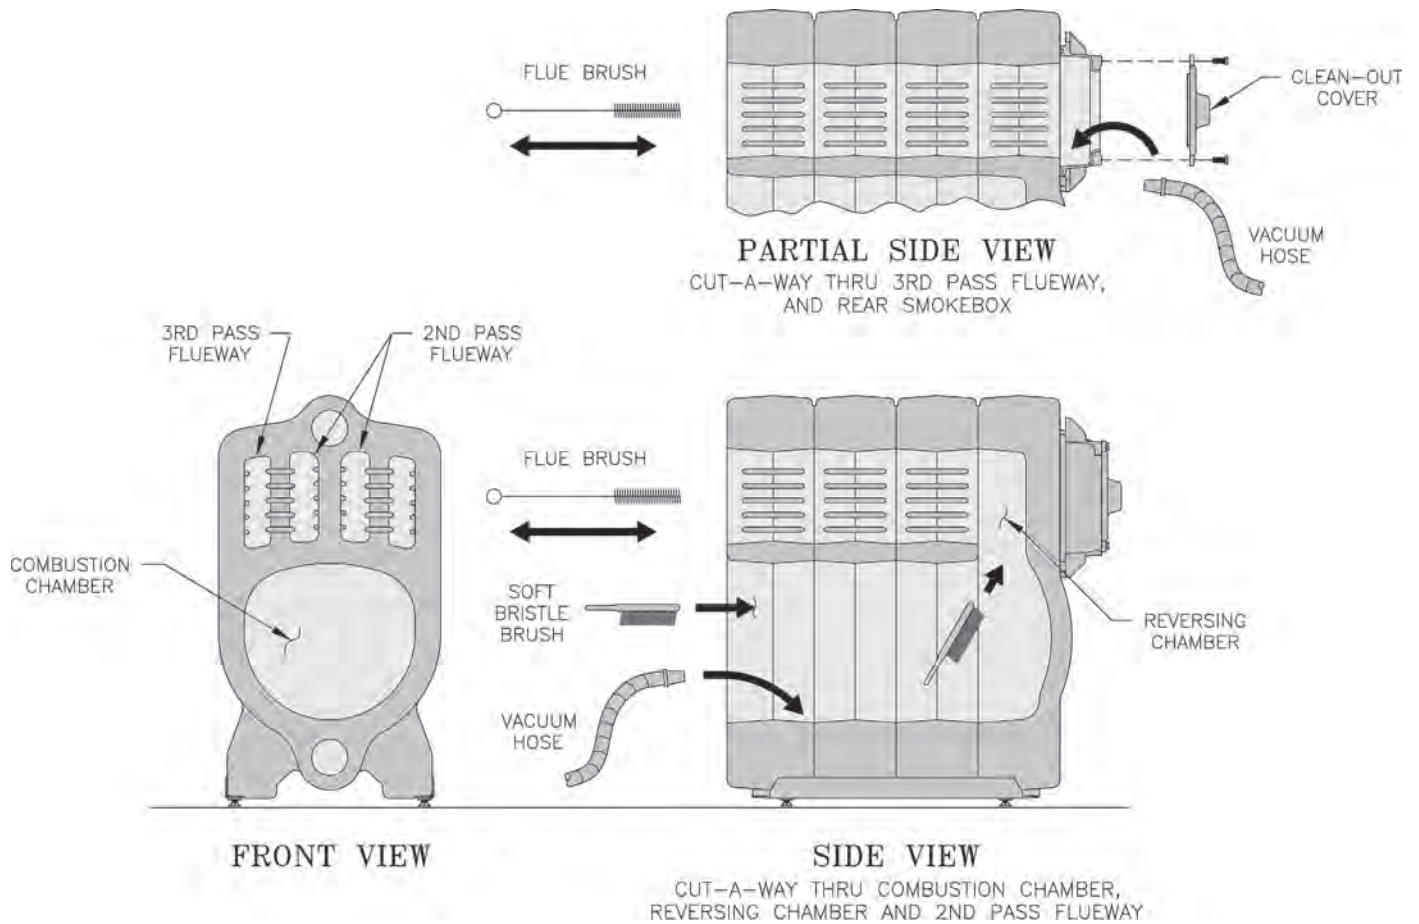

Figure 38: Cleaning of Boiler Flueways
A. CLEAN THE FLUEWAYS (See Figure 38).
1. For access to the combustion chamber remove the two (2) 3/8" - 16 cap screws. If boiler is equipped with flexible fuel line(s), swing door open.